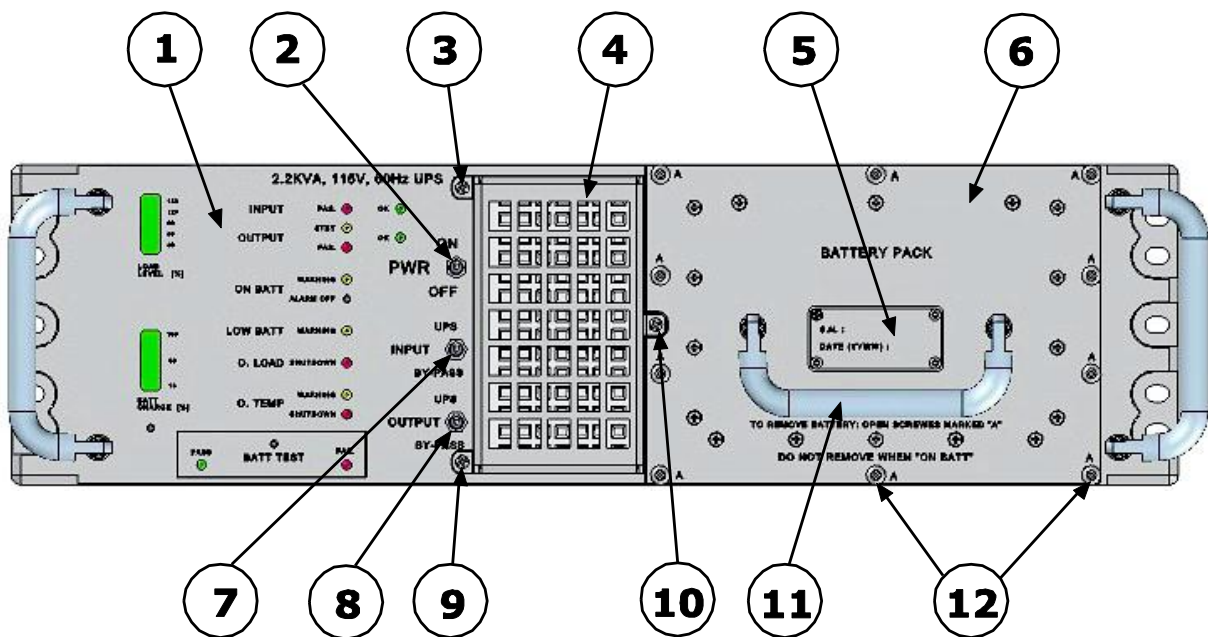

Figure 3: Front Panel, Main Components
3.1 Front Panel: Main Components (Figure 3)